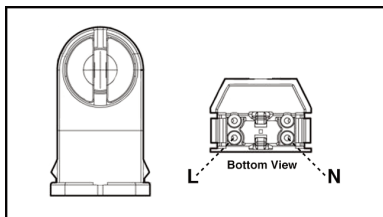

Fig:1 - Non-shunted G5 Lamp Holder For T5
- 6) Ensure that the fixture contains non-shunted G5 bi-pin lampholders(Fig. 1).If socket lampholder are internally shunted,then replace with new non-shunted socket lampholders.If socket lampholders are shunted with a jumper wire,remove wire to convert into non-shunted sockets.